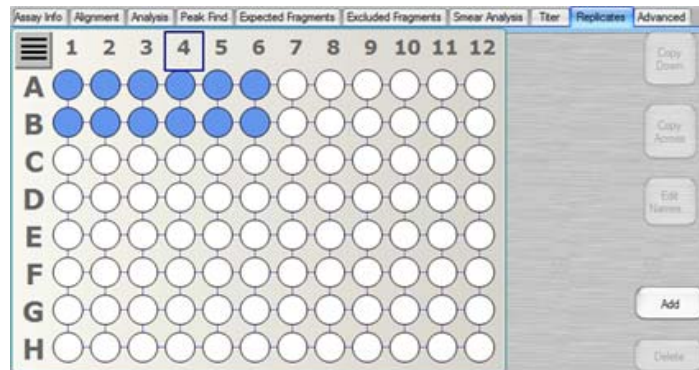

Figure 31. Wells Selected for Replicate Set
- 1 Select the wells that all contain the same sample. Click and drag to select contiguous wells. Shift + click or Shift + click and drag to add additional wells. To select the rows shown in Figure 31 on page 55, click on well A1 and drag to well B6.